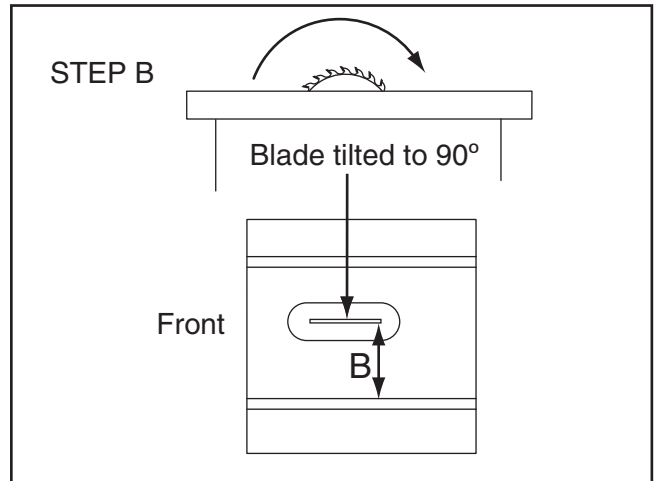

Figure 120. Measuring distance from miter slot to carbide tip on opposite side of table insert.
6. Compare the distance from the marked blade tip to the miter slot, as shown in **Figure 120**.